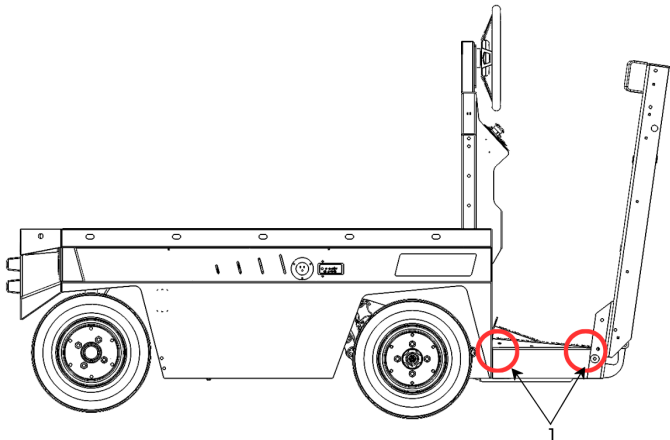

Figure 35. Side Panels.
- Side panels corners (1) (both sides). There is a possibility of cracks occurring in these corners as they undergo significant stress (see Figure 35).